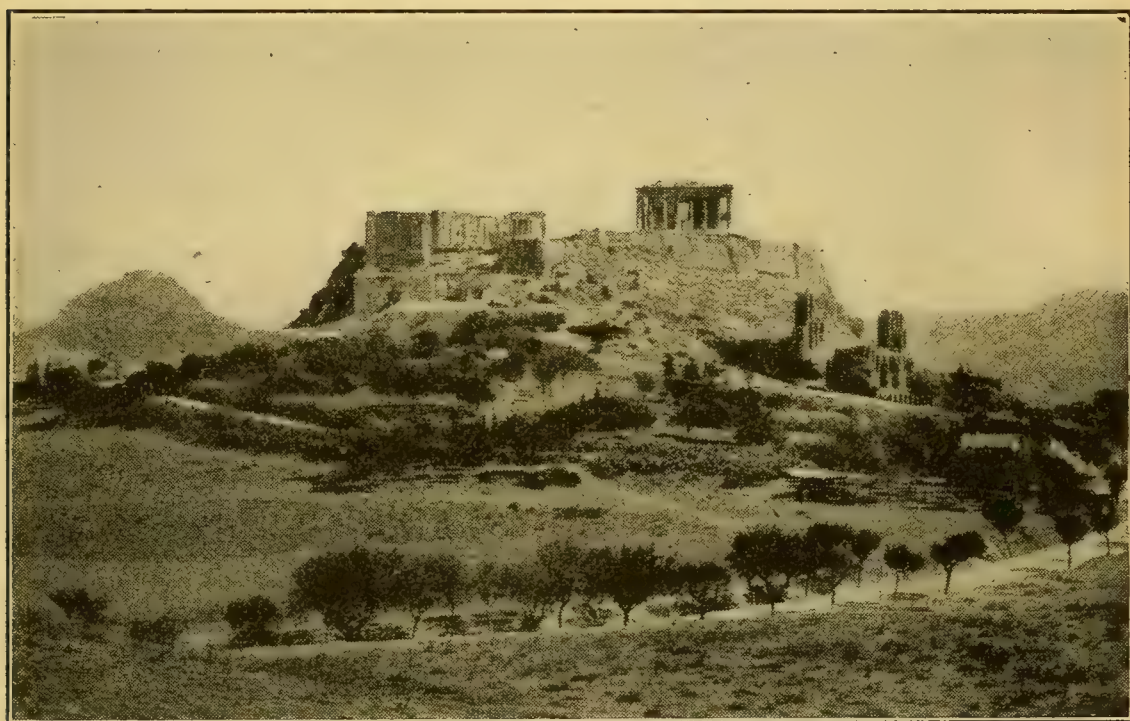

FIGURE 16. — ACROPOLIS AT ATHENS.
12. Cohesion and Adhesion. — Buildings are standing to-day that were built thousands of years ago (Figure 16). There must be forces holding their molecules together, even though these molecules have a very limited motion. When